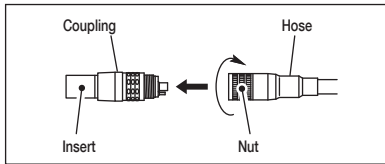

Fig. 2
- 1) Align the pipes of the coupling and the pipe holes of the hose, and push the coupling onto the hose. Hold the coupling tightly and fasten the nut of the hose securely. (Fig. 2)